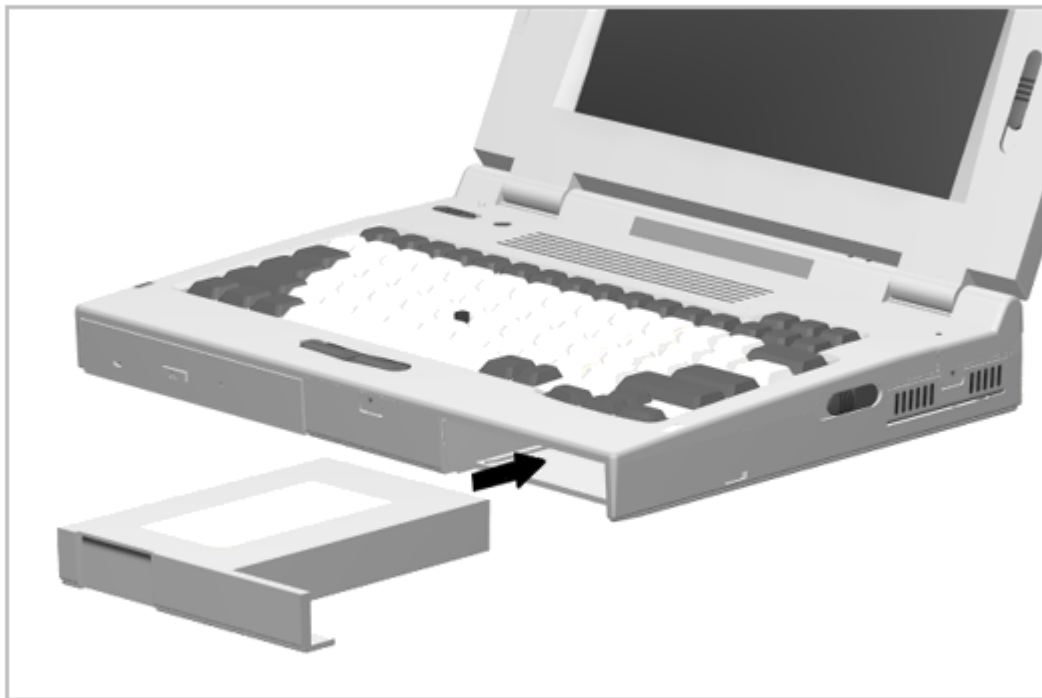

Figure 5-6. Using the Battery Pack as a Counterweight
2. Insert the battery pack into the battery compartment (Figure 5-6). The battery panel prevents the battery from making electrical contact.